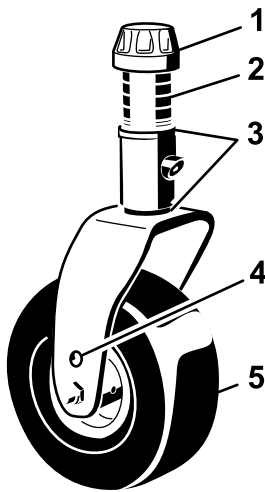
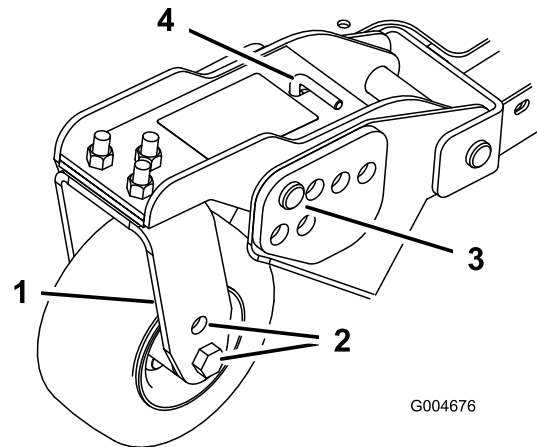
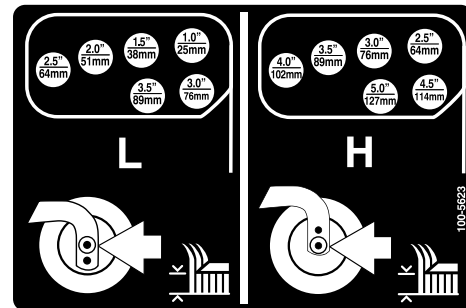

Figure 21
Figure 23
Figure 24
1. Position the castor wheel axles in the same holes in all of the castor forks (Figure 21 and Figure 23). Refer to the following chart to determine the correct hole for the setting.
2. Remove the tensioning cap from the spindle shaft (Figure 21) and slide the spindle out of castor arm. Put the two shims (3 mm [1/8 inch]) onto spindle shaft as they were originally installed. These shims are required to achieve a level across the entire width of the cutting units. Slide the appropriate number of 13 mm (1/2 inch) spacers onto the spindle shaft to get the desired height-of-cut; then slide the washer onto the shaft.
4. Remove the hairpin cotter and clevis pins from the castor pivot arms (Figure 23).
5. Rotate tension rod to raise or lower pivot arm until holes are aligned with selected height-of-cut bracket holes in the cutting unit frame (Figure 23 and Figure 24).